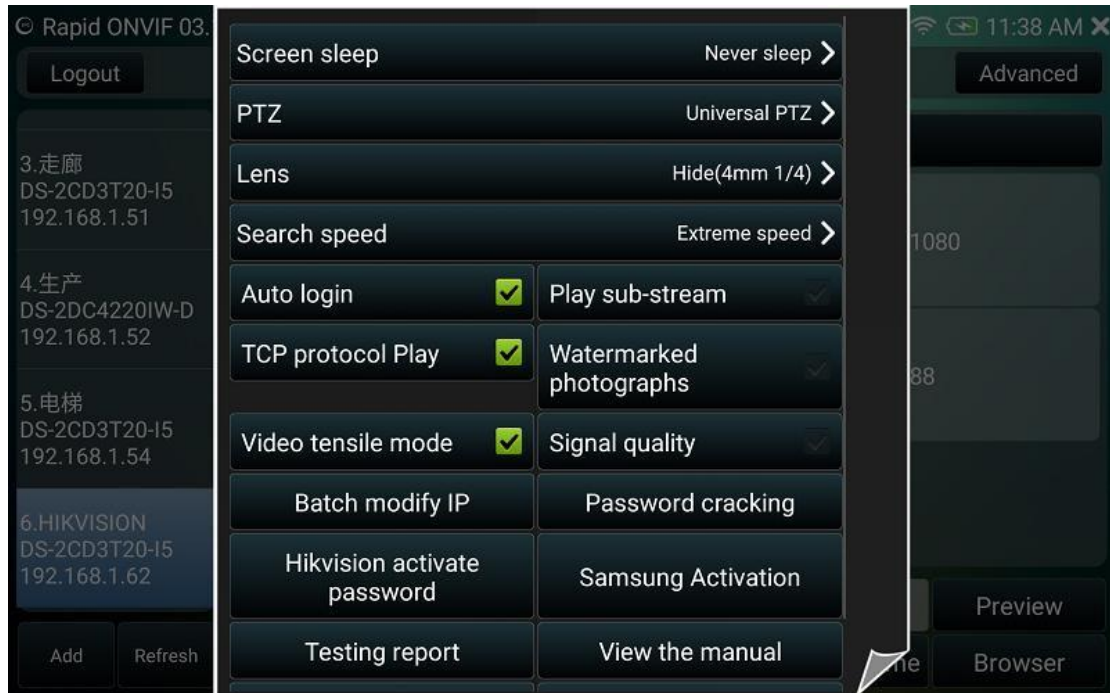

Figure 24
10) Advanced settings, you can set Auto-login, Play sub-stream, Watermarked photographs, Video tensile, Lens, etc, as shown in Figure24